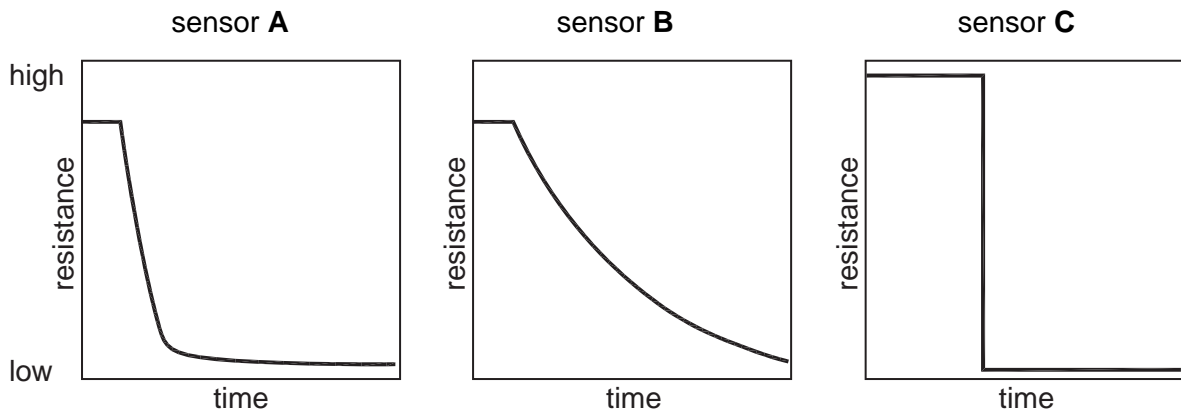

Fig. 4
- (ii) Each of the sensors can indicate a change in condition by falling resistance. Fig. 4 shows time against resistance graphs for each of the sensors. Explain why sensor C has a much faster reaction time compared to the other two sensors.